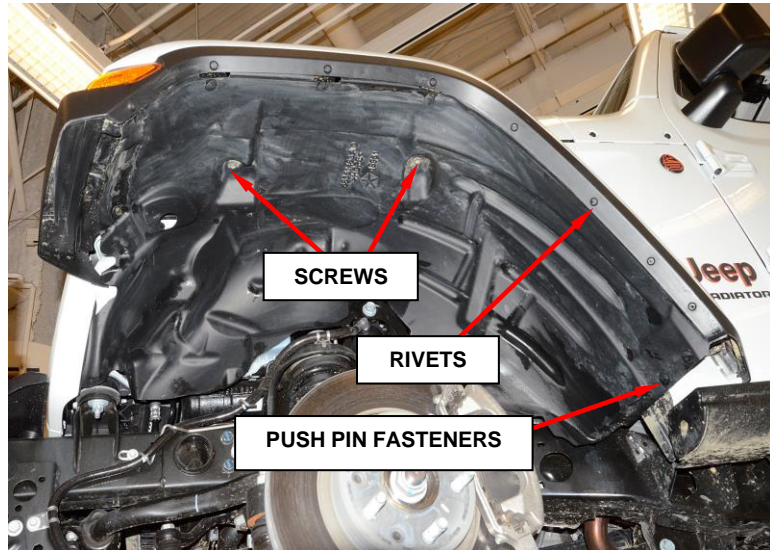

Figure 1 – Splash Shield
3. Remove the splash shield screws (Figure 1).
4. Remove and discard the push pin fasteners (Figure 1).
5. Remove the rivets securing the splash shield to the flare molding (Figure 1).
11. Align and install the splash shield to the wheel opening (Figure 1).
12. Install **NEW** rivets (Figure 1).
13. Install **NEW** push pin fasteners (Figure 1).
14. Install the screws and tighten to 5N·m (44In. lbs.) (Figure 1).